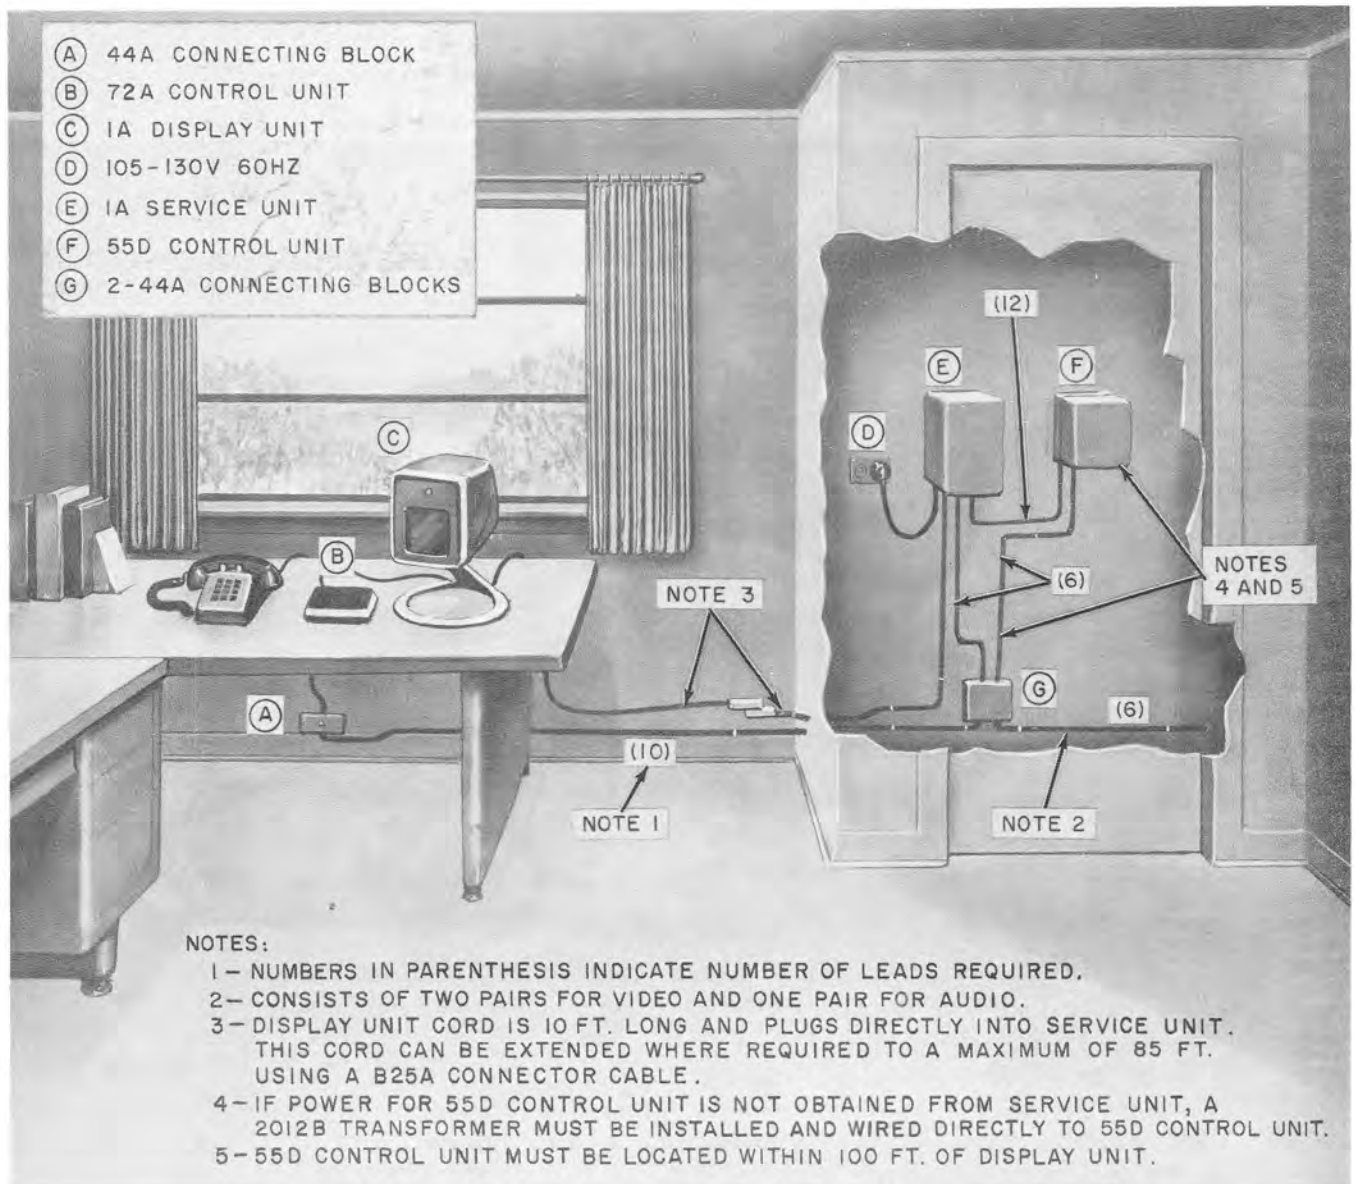

Fig. 9—Typical Installation of Single Line Station
**3.05** Fig. 9 is a typical installation layout of a single line station and Fig. 10 is a typical installation layout of a key telephone station.